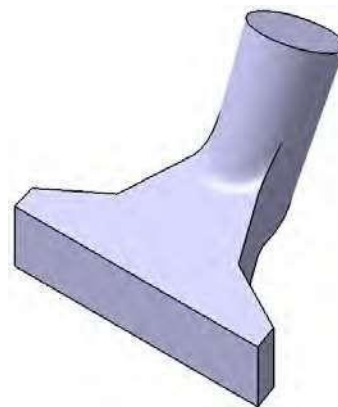

*Figure 5-80 Model after creating the third feature*
11. Using the Hide/Show tool, hide Sketch1, Sketch2, Plane1, and Plane2. The model, after creating the third feature, is shown in Figure 5-80.